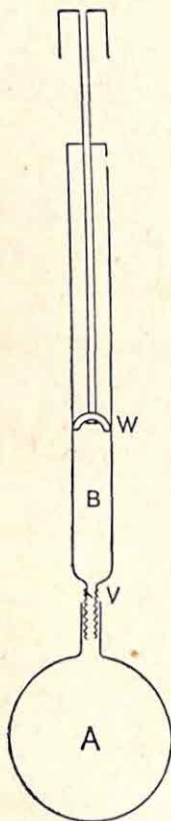

FIG. 124.
**The compression pump.**—A simple compression pump, e.g. a football inflator (Fig. 124), consists of a barrel, a piston and piston rod, and two valves. The piston is a washer of leather W, well oiled to render it flexible so as to operate as a valve. This washer is wider than the barrel and is curved inwards. A second valve V controls the air in the receiver A.